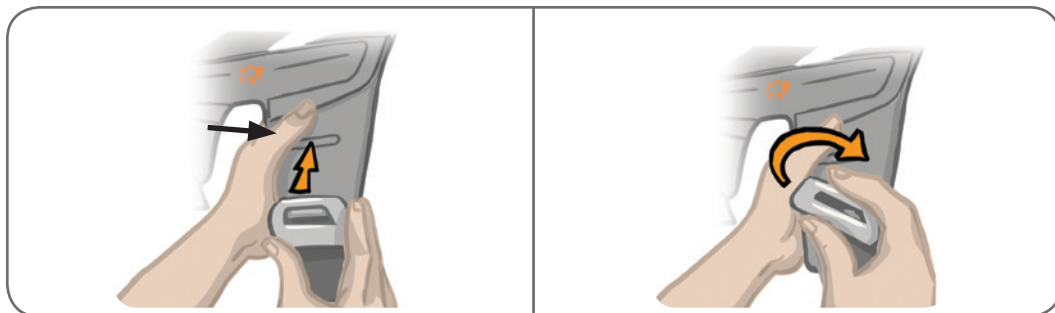

Figure 8-13: Removing the Thigh Straps
1. Push the attached thigh strap buckle toward the thigh FS Cuff while making a twisting motion. See Figure 8-13.